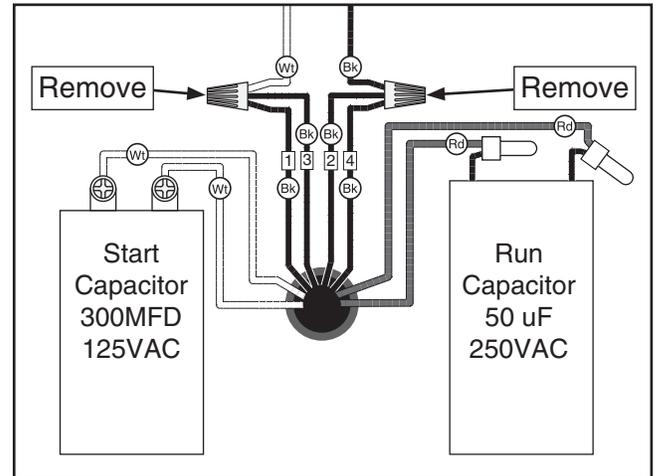

Figure 4. Motor wires at 120V.
4. Remove wire nuts indicated in **Figure 4**.